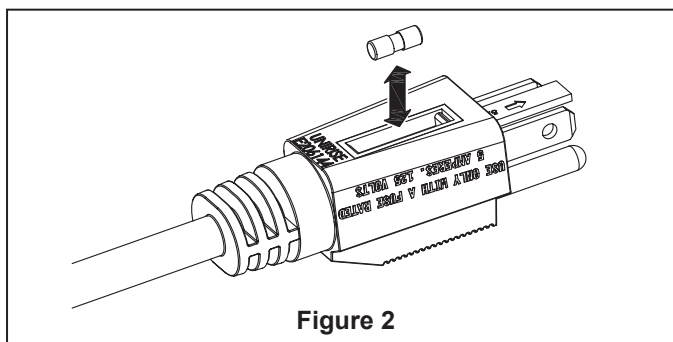

Figure 2
2. You have now completed the assembly of your fan. Plug cord directly into the socket. (Figure 2)
3. Remove fuse carefully (Figure 2).